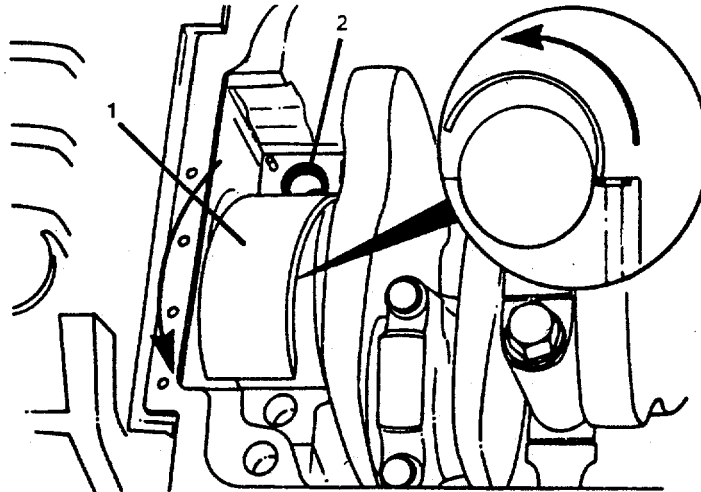

FIGURE 4-44. Installing the Bearing Shell.
- (6) Install the lower main bearing shell as follows:
- (b) Align the lower bearing shell (1, Figure 4-44) with the dowel ring (2).
- (c) Push on the side of the bearing shell opposite the dowel ring to install the bearing shell (Figure 4-44).
- (7) Use clean Lubriplate or its equivalent to lubricate the lower thrust bearings.